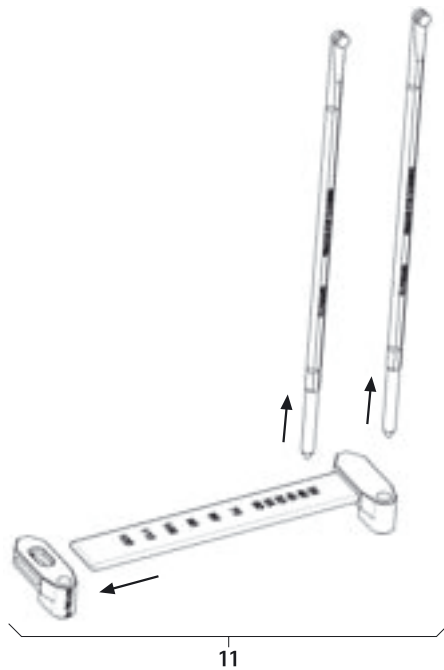

Fig. 6
- Dismount rod length measuring instrument 11, see Fig. 6.